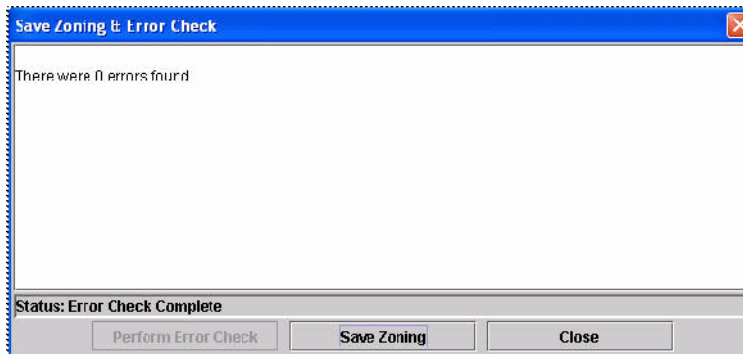

Figure 7-59 Save Zoning & Error Check window
19. Once the Error Check is complete and no errors appeared (Figure 7-59), select **Save Zoning**.